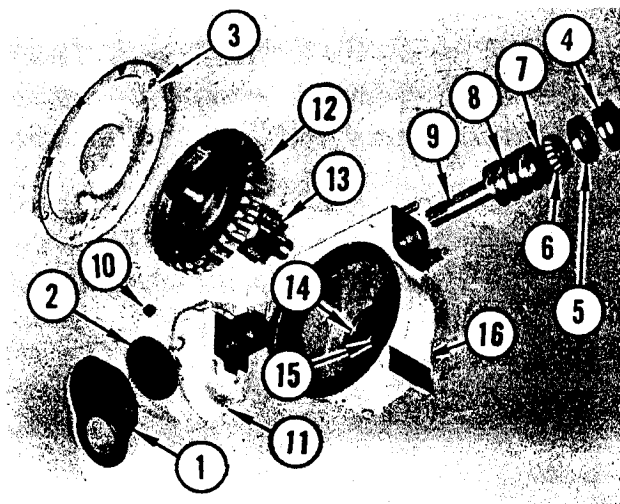

FIGURE 28. LATERAL SHIFT HOUSING
Refer to Figure 28. Remove the nine capscrews and lockwashers from reduction housing cover (1) and remove cover and gasket.